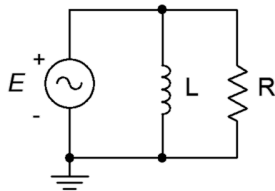

Figure 3.19
30. For the network shown in Figure 3.19, determine a value of L such that the impedance magnitude of the circuit is $2\text{ k}\Omega$. The source is a 2 MHz sine and R is $3.3\text{ k}\Omega$.
32. For the network shown in Figure 3.19, determine a value for L such that the magnitude of the source current is 10 mA . E is a $25\text{ volt } 100\text{ kHz}$ sine and $R = 4\text{ k}\Omega$.
38. Given the circuit shown in Figure 3.19, determine a value for L such that the impedance angle is 45 degrees. The source a 10 volt peak sine at 100 kHz and $R = 1.2\ \text{k}\Omega$.